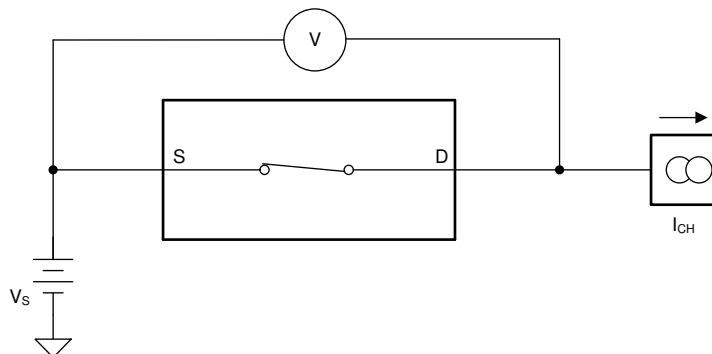

Figure 6-1. On-Resistance Measurement Setup
The on-resistance of the TMUX6136 is the ohmic resistance across the source (Sx) and drain (D) pins of the device. The on-resistance varies with input voltage and supply voltage. The symbol R_{ON} is used to denote on-resistance. The measurement setup used to measure R_{ON} is shown in Figure 6-1. Voltage (V) and current (I_{CH}) are measured using this setup, and R_{ON} is computed as shown in Equation 1.